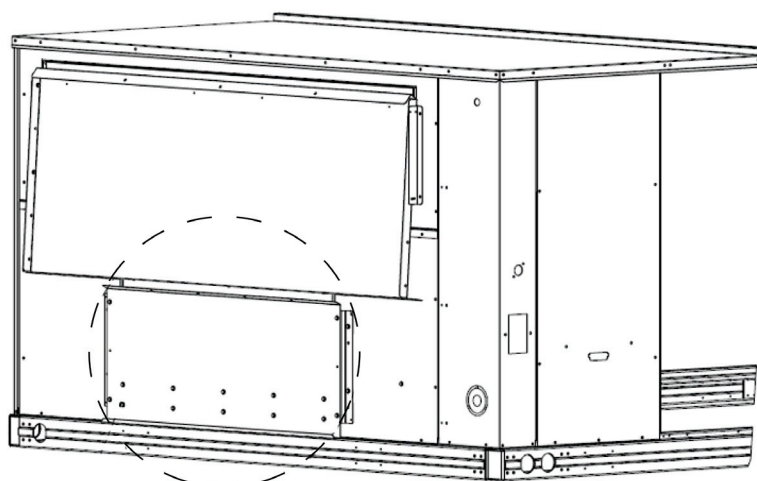

Fig. 14 — Shipping Location, Vertical Units
1. Remove the hood top panel from its shipping position on the unit end. (See Fig. 14.)